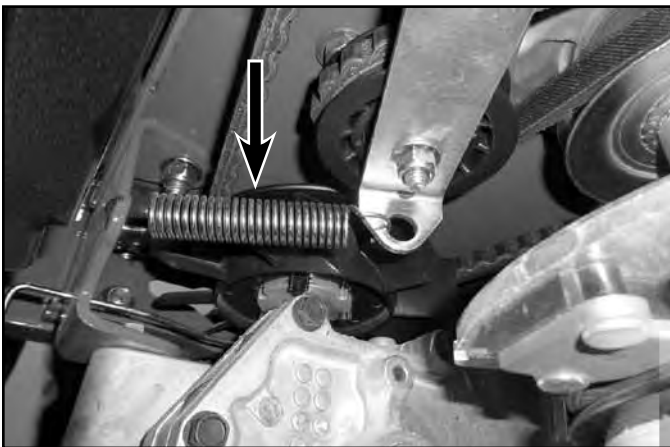

Fig. 083
7. Install and orient the drive belt tensioner spring as shown (Fig. 083).